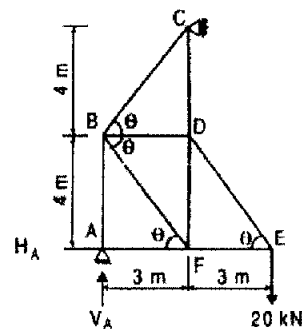

Figure 5
5. (a) State the assumptions made in the analysis of pin jointed trusses. Bring out the differences among perfect, deficient and redundant trusses. (4)
- (b) Analyse forces of member of truss as shown in Figure 5. In given truss joint A is pin joint whereas joint C is simple supported joint. (6)